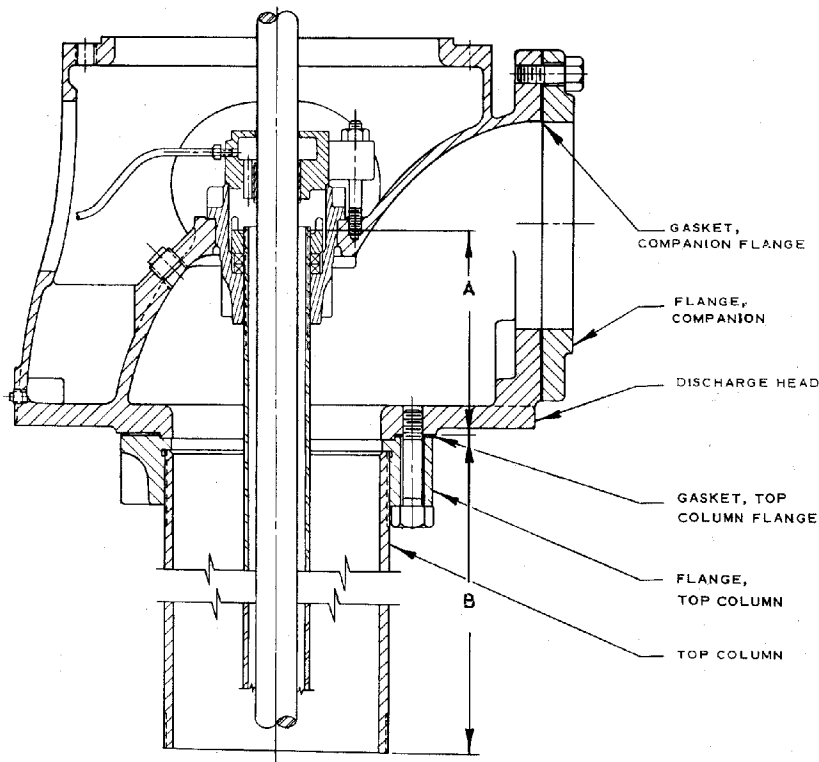

Fig. 8-2. Discharge Head Assembly. 6x6x12 Or Larger.
B. There are two types and many sizes of discharge heads. The 4 x 4 x 10C or smaller sizes are threaded to receive a threaded top column section. (See Fig. 8-1.) The 6 x 6 x 12 and larger sizes are fitted with a bolted-on flange (the top column flange) which receives a threaded top column section. (See Fig. 8-2.)
2. For a 6 x 6 x 12 or larger discharge head (Fig. 8-2):
J. When a 6 x 6 x 12 or larger discharge head is used, measure the distance from the upper surface of the top column flange to the lower end of the top column section (Dimension B, Fig. 8-2).
1. Grease both sides of the top column flange gasket (Fig. 8-2). Stick it in place on the lower surface of the discharge head, aligning the air line hole in the discharge head.
Lower the discharge head slowly, carefully aligning the vertical hole in the center of the discharge head with the top shaft so that there will be no bumping or scraping as the shaft and then the tube enters and passes through the hole. Hold the discharge head at a point just above the top column flange and, if an air line is used, rotate the discharge head as necessary to align the air line hole in the head with a similar hole in the flange. If no air line is being installed, rotate the discharge head so that the air line holes do **not** align and will be sealed by the discharge head until the studs enter the holes in the top column flange, and the discharge head is firmly seated in place. (See Fig. 8-2.) Install the hex nuts on the studs to complete the installation.